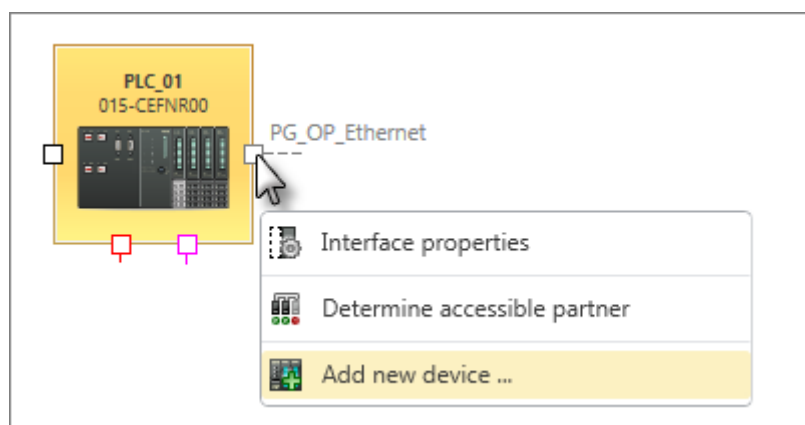

Fig. 60: Add HMI device on the connecting line
- **Editor "Devices and networking":** Right-click with the mouse button on the connecting line "PG\_OP\_Ethernet" and select 'Add new device'. Fig. 60